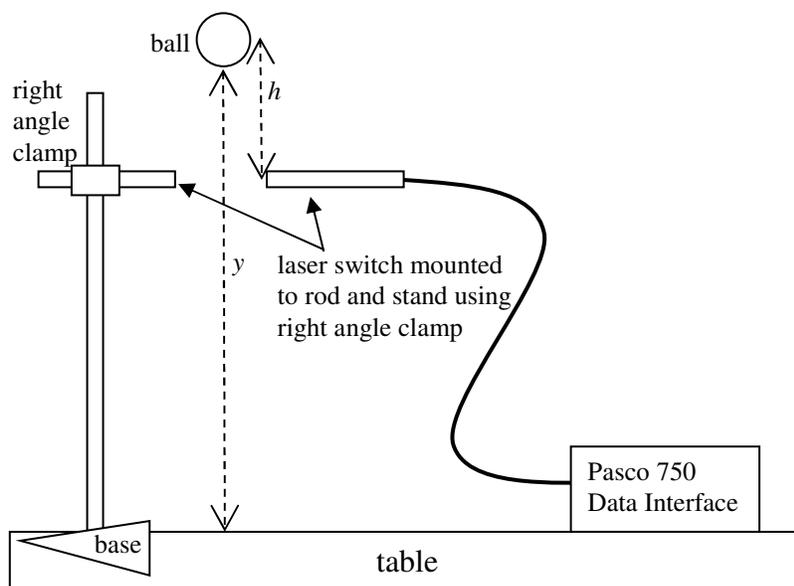

Figure 1: A laser switch measured v of a ball a distance h below the release point.
- It refers to the apparatus diagram (Figure 1) so it is easier to understand.
A ball of diameter D was dropped from the known height y (see Figure 1). The laser switch was positioned a distance h below the release point. The ball passed through the laser switch operating at 200.0 Hz. The DataStudio program determined v from the time t the ball blocked the switch and D using the approximation $v=D/t$.